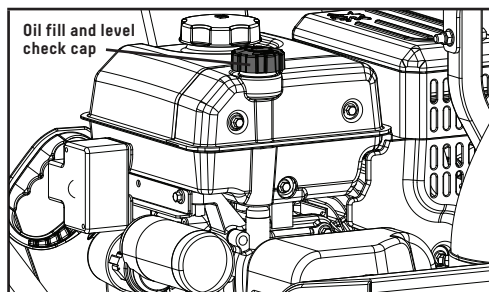

Figure 21A
2. Remove the oil cap/dipstick and wipe it clean (Fig. 21A).